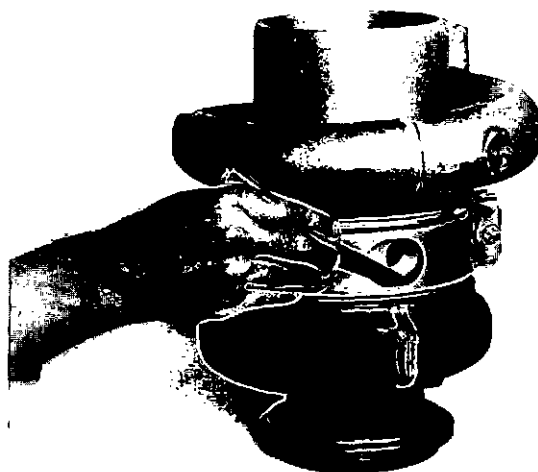

Fig. 4-40, (T465092). Measure the clearance at the V-band clamp
17. Check the clearance between the turbine housing and the V-band clamps. There must be a minimum of 0.035 inch [0.89 mm] clearance, Fig. 4-40.